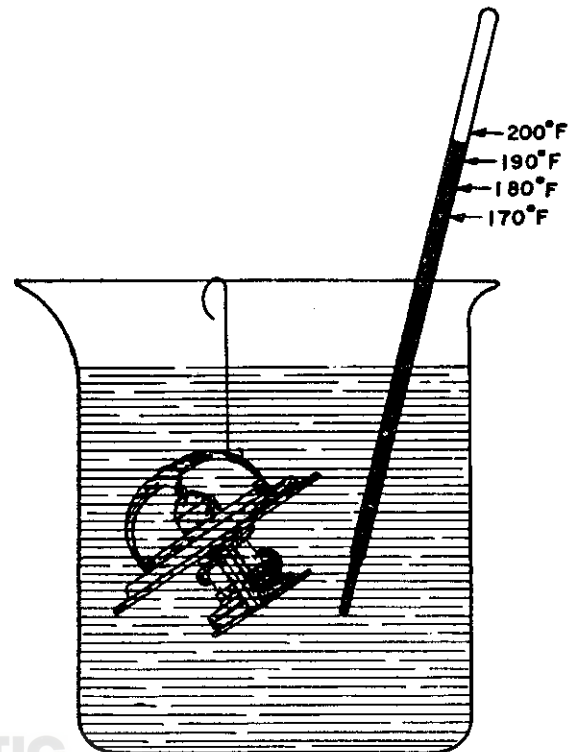

FIG. G-7—THERMOSTAT TEST
b. The thermostat on the Hurricane F4 engine is located in a housing on the top front of the cylinder head. On the Dauntless V-6 engine it is located in the thermostat housing of the air intake manifold. The standard engine thermostat for the Hurricane F4 and Dauntless V-6 engine has a normal rating of 190°F. [87.8°C.] and should begin to open at a coolant temperature between 180°F. [82°C.] to 192°F. [89°C.] and be fully open at 202°F. [94°C.]. See Fig. G-7 for method of testing.